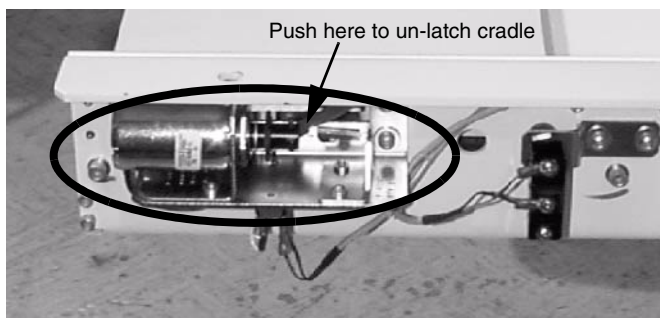

Figure 1-27 Unlatch Cradle
- 5.) Push the plunger on the right rear of the table to unlatch the cradle (see Figure 1-27).